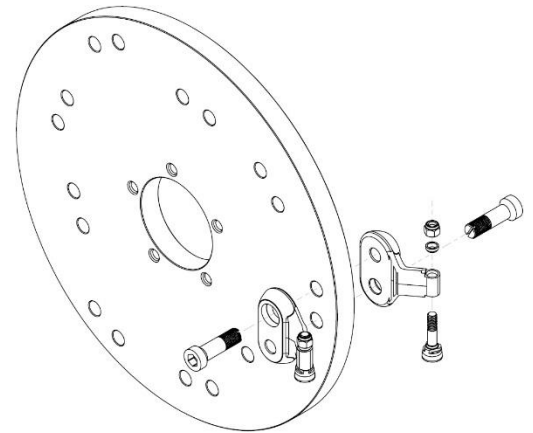

Figure 1.1
8. Slide the **LoPro™** bolts through the empty holes in the wheel and thread them into the adjacent pocket's threaded holes. For now, firm up the **LoPro™** bolts until pockets are seated. (Figure 1.1)
16. Slide the **LoPro™** bolts through the empty holes in the wheel and thread them into the adjacent pocket's threaded holes. For now, firm up the **LoPro™** bolts until pockets are seated. (Figure 1.1)